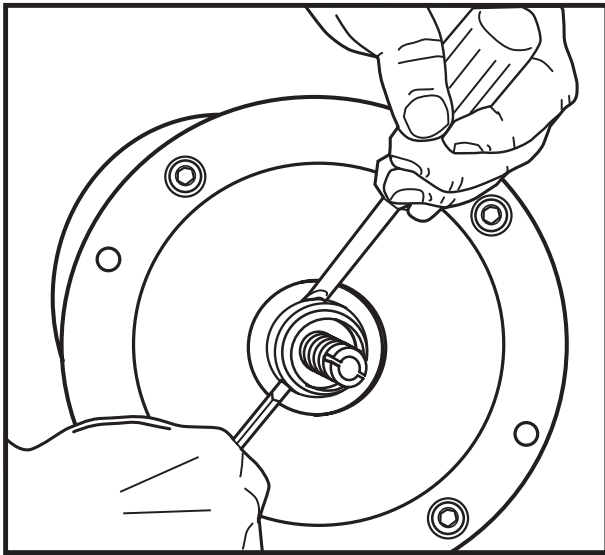

Fig. 17
8. Pry carbon portion of seal from shaft by using flat blade screwdrivers on each side of shaft. **DO NOT SCRATCH SHAFT.** It does not matter if carbon cracks as it may be replaced with new part. See Figure 17.